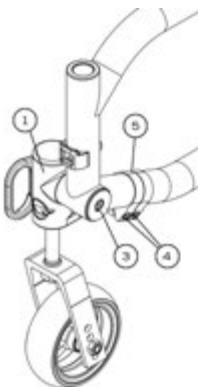

Fig. 31
- Insert the stem bolt (3) into the fork (4) and tighten the lower lock nut (5) while holding the stem bolt from the bottom to prevent the fork from turning.
- Insert the assembled stem bolt with fork through the caster housing (6)
- Tighten the upper lock nut (2) while holding the stem bolt (3) from the bottom to prevent the fork from turning.
- Replace the plastic cap (1).
- If the housing is not parallel to the set square, remove the screws (4) (Fig. 31) and loosen the pivot bolt (3) (Fig. 31).
- Rotate the caster housing to adjust the angle while sliding clamp (5) on the frame.
- Tighten screw (3). This will hold the caster housing position.